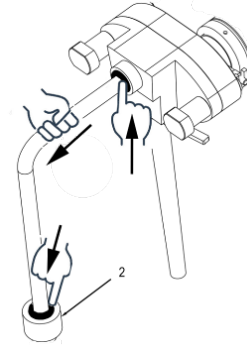

Fig. 70
- Unhook the flow tube from the pump using the quick release technology by simultaneously pressing the dark collar into the inside and with the other hand pull the tube out (Fig. 70).
- Remove the flow tube from the tank fitting 2 and then unscrew the fitting itself from the tank (Fig. 70).